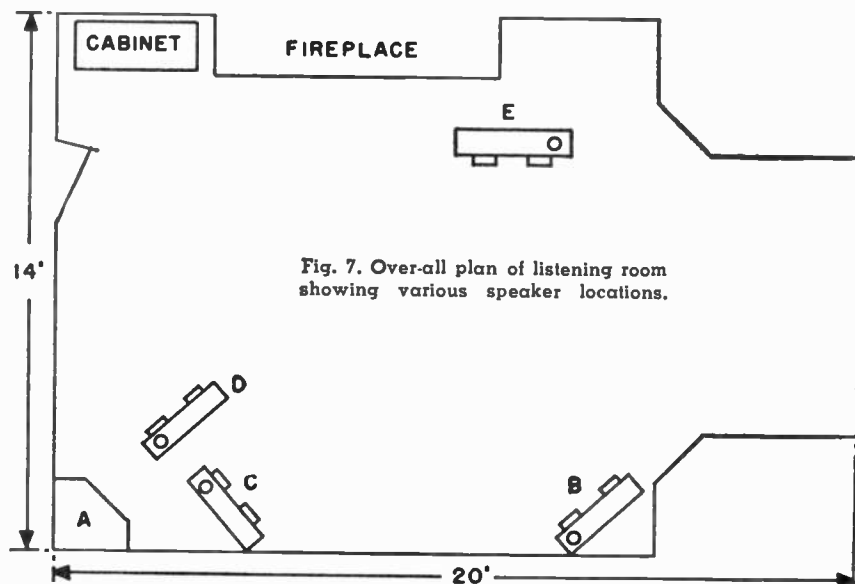
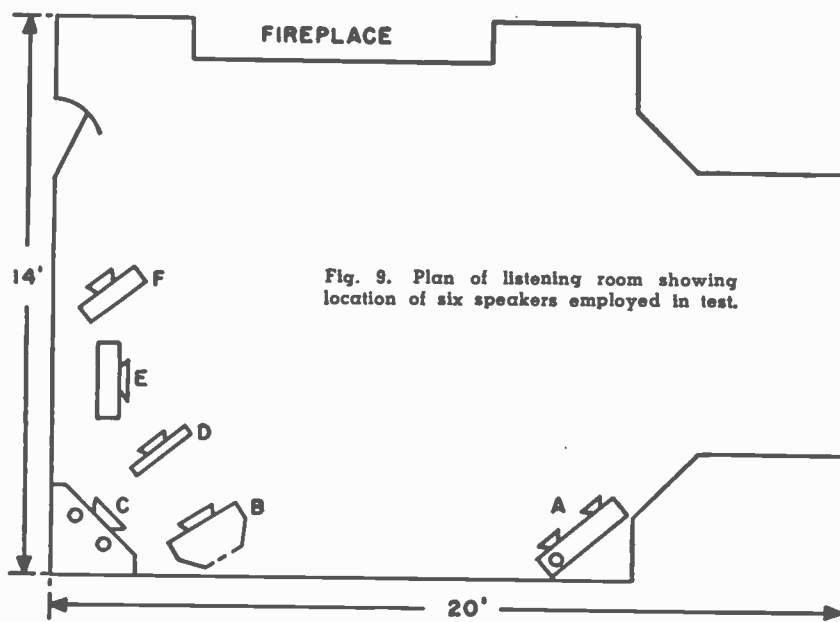

Fig. 7. Over-all plan of listening room showing various speaker locations.
Fig. 9. Plan of listening room showing location of six speakers employed in test.
To get back to earth (before the Editor starts using his blue pencil), a general outline of my own listening room at home is given in Fig. 7. Apart from the fact that it is usually cluttered up with equipment and numerous loudspeakers (my wife is case-hardened), the furnishings, carpets, and curtains are normal.
To revert to Fig. 7, the general conclusions are as follows, but it will be understood that other rooms, other speakers, other ears would give different results. It is equally important to remember that results vary according to the type of record or radio transmission being used. Large choral and orchestral works often contain a good deal of studio coloration or ambience which might clash with the room resonance. A rather dry, crisp recording is essential. Solo voice is an excellent test, but a good, clean piano record is hard to beat, as the frequency range covers seven octaves and any "boxiness" in reproduction is easily noticed. It is worthy of note here that the type of recording which sounds "right" in a good concert hall, and is therefore free from excessive recorded ambience, is ideal for these tests as it will not lead the ear astray.
Fig. 8. Photograph of speakers outlined in Fig. 9 (A) Three-speaker system used in tests described in Part 2. (B) "Super 12" in Electro-Voice "Aristocrat" cabinet. (C) Three-way corner system. (D) Ten-inch speaker on sand-filled 28" x 24" baffle. (E), (F) Ten-inch speaker in 2 cu. ft. bass-reflex enclosure with acoustic filter.
It is necessary to include another plan of my own listening room to show the disposition of the half dozen speakers used in the tests. (See Fig. 9.) The corner speaker referred to as A in Fig. 7 of Part 2 now becomes C.